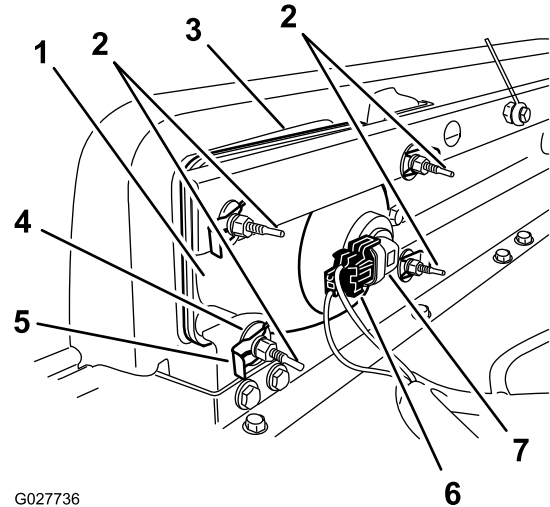

Figure 43
3. Disconnect the electrical connector for the harness from the connector of the lamp assembly (Figure 43).
4. Remove the speed clips and washers that secure the headlight to the headlight bracket (Figure 43).
5. Remove the headlight assembly by moving it forward through the opening in the front bumper (Figure 43).
6. Install the new headlight through the opening in the bumper (Figure 43).
8. Connect the electrical connector for the harness to the connector of the lamp assembly (Figure 43).
2. At the back of the headlight assembly, rotate adjustment screws (Figure 43) to pivot the headlight assembly and align the position of the cast beam.